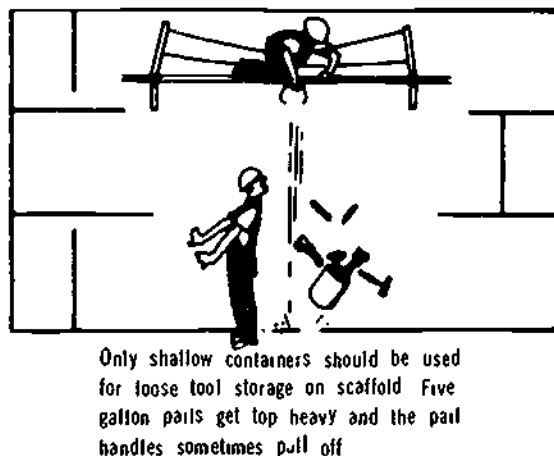

Figure 1-17. Use of Approved Containers
5. Loose objects not in use must be placed in containers provided for that purpose (Figure 1-17).